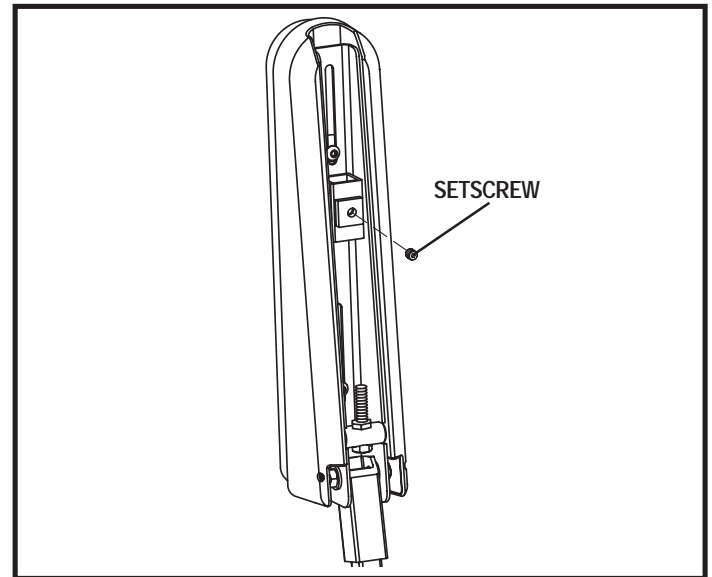

Figure 19. Underside of Armrest
2. Loosen the setscrew on the controller bracket. See figure 19.
4. Loosen the setscrew on the underside of both armrests. See figure 19.